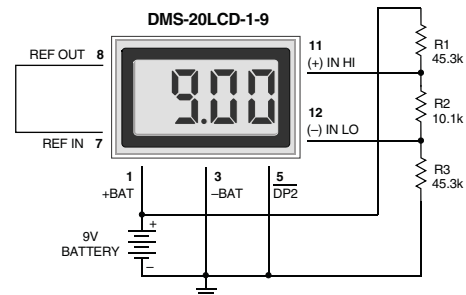

Figure 8. Power Supply Monitor (9V-Powered Models)
6. **Power Supply Monitoring:** A popular application for Murata Power Solutions' low-power LCD meters is monitoring the supply voltage in battery-operated portable equipment. Figure 8 demonstrates how a 9V-powered DMS-20LCD can be used to monitor its own supply. The meter used is the DMS-20LCD-1-9. A three-resistor voltage divider is used to attenuate the battery voltage and also to satisfy the requirement that the input voltages applied to pins 12 and 11 be at least 1.5 Volts above and below the battery voltage applied to pins 1 (+BATTERY) and 3 (-BATTERY). The divider should be designed so that 1/10th the battery voltage falls across the inputs to the meter: